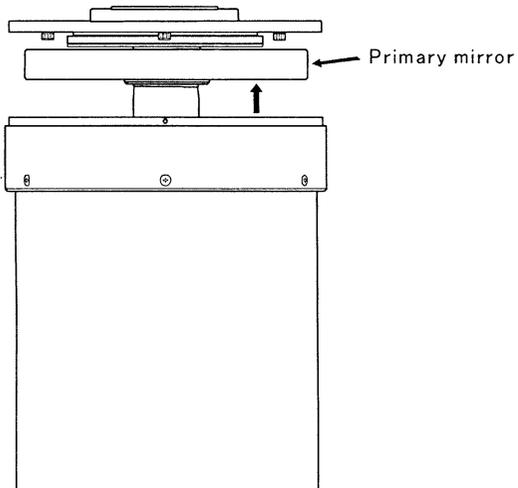

Fig. 26
5. The primary will be in view while lifting the cell. As the corrector tube is long so the primary mirror should be put aside after well cleared. Refer to the Fig. 26 and 27.